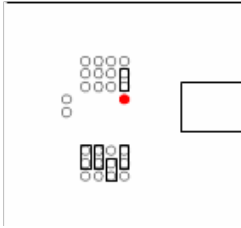

Figure 4: LED for GPIO 0
- The pairing process was successful if the GPIO 0 LED is permanent on (see Figure 4)